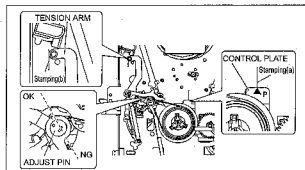

Fig.4-2a
- Play back the back tension cassette gauge (A).
- Check that the indicated value on the left side gauge is within the specified value (G).
- If the indicated value is not within the specified value (G), perform the adjustment in a following procedure. (See Fig.4-2a.)
- Rotate the reel disk (S) by about one turn clockwise and make sure that the round hole of the adjustment pin is located in the "OK" range. If it is outside this range, restart the adjustment from the beginning.